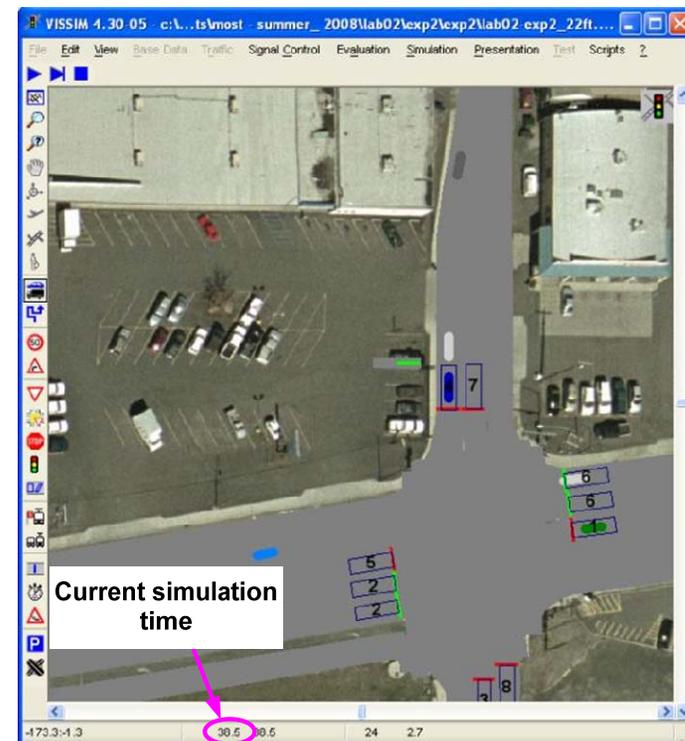

Figure 13 Features of animation window
- The simulation window shows the animation of vehicles traveling through the intersection as well as other data (see Figure 13):